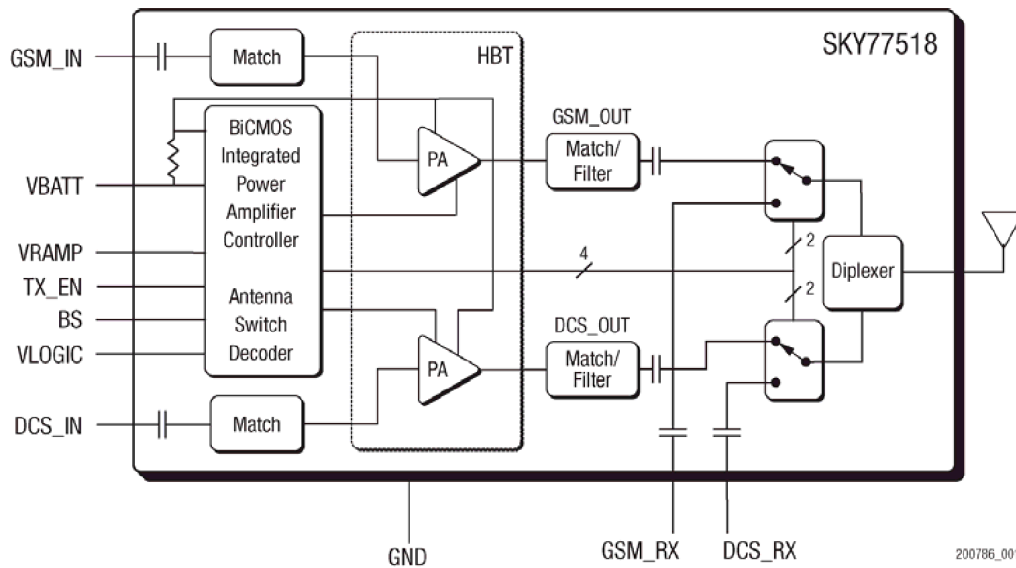

Figure.3-2-1 SKY77518 FUNCTIONAL BLOCK DIAGRAM
Band selection and control of transmit and receive modes are performed using two external control pads. Refer to the functional block diagram in Figure 3-2-1 below. The band select pad (BS) selects between GSM and DCS modes of operation. The transmit enable (TX_EN) pad controls receive or transmit mode of the respective RF switch (TX = logic 1). Proper timing between transmit enable (TX_EN) and Analog Power Control (VRAMP) allows for high isolation between the antenna and TXVCO while the VCO is being tuned prior to the transmit burst.